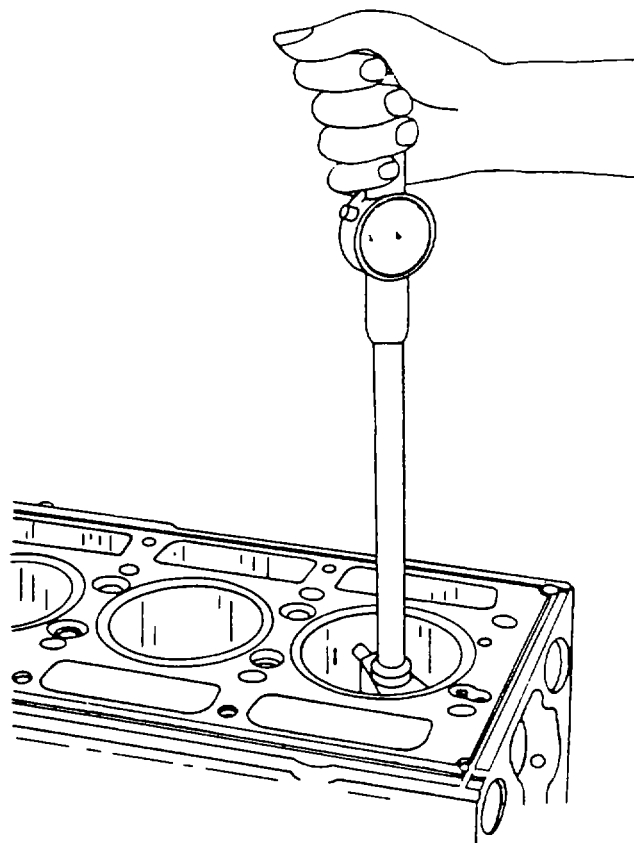

Figure 4-54. Checking Bore of Cylinder Block.
- (3) Remove hone when bore is fairly clean. Measure bore. Determine which spots must be honed most. Where and how much to hone can be judged by feel.
- (4) Wash cylinder block thoroughly after honing operation is completed.
- (5) Measure the entire bore of each cylinder with cylinder bore gage J5347-01 (figure 4-54) which has a dial indicator calibrated in .0001 inch increments. The standard block bore is 4.6260 inch to 4.6275 inch. Place the bore gage in the master ring gage J8386-01 which has an I.D. of 4.6270 inch and set the dial to zero. Take measurements on the cleaned-up surface only at positions A, B, C, D, E, and F in the bore on axis 450 apart. Read the measurements from the zero mark on the gage.